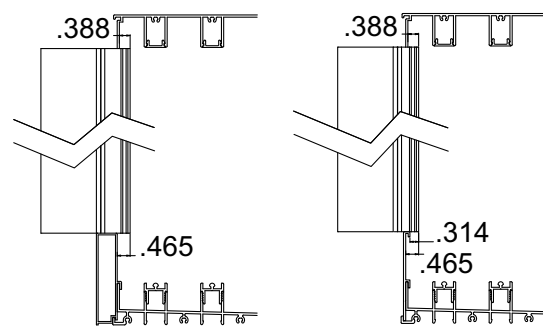

Figure 15
- 12) If a panel is not available to set the location of the p-hook from inside to outside then align the p-hook with the riser and header as shown. (See Figure 15)